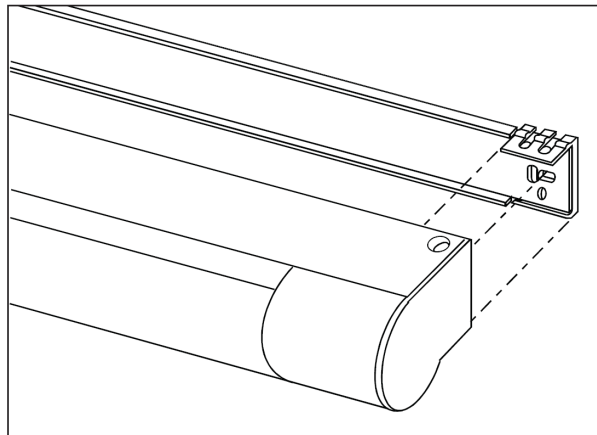

Figure 3
10. Ensure that the fixture is oriented as shown in Figure 3, and snap the fixture on to the rear bracket.